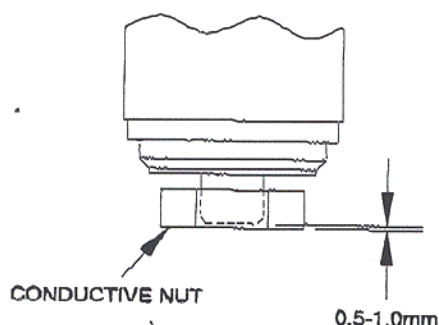

Fig. 10
- 1) Remove the conductive nut from the vacuum interrupter being replaced and attach it to the new vacuum interrupter as shown in Fig. 10.